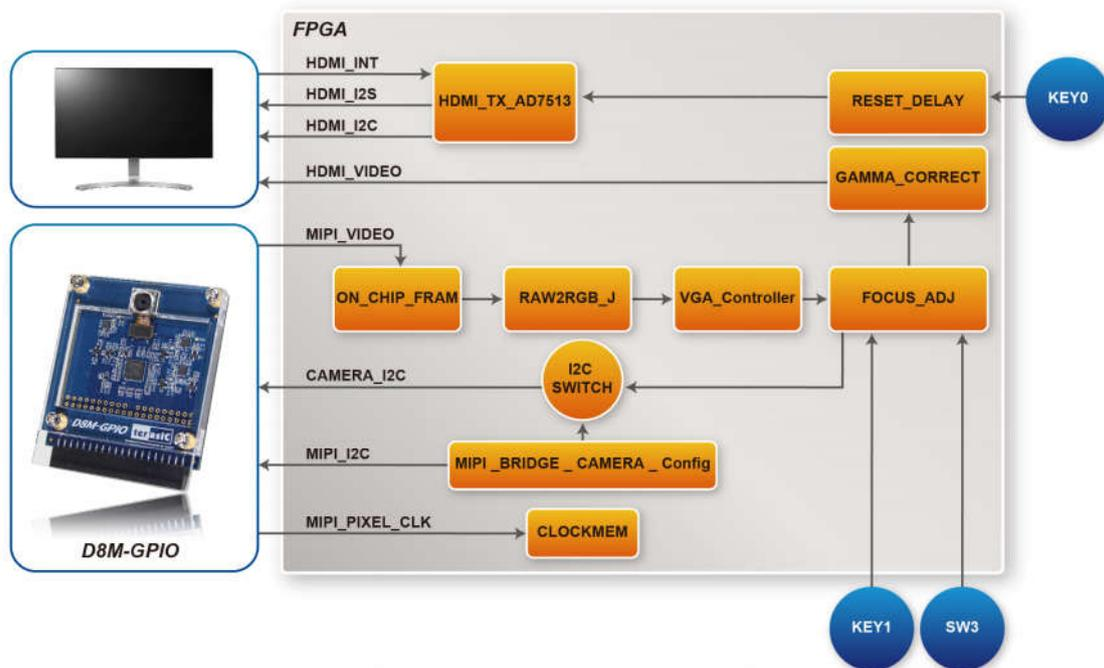

Figure 2 System Block Diagram
**Figure 2** shows the System block diagram of Camera demonstration. This design block is one dual-port-ram Control module can control on chip Memory and read/write image data. Camera raw data will be written in on-chip-ram first. After finishing writing a Frame, ON-CHIP\_FRAM module will read out the data from dual-port-ram to RAW2RGB\_J module to convert RAW data to RGB data. The RGB data will output along with the signal timing generated by VGA\_Controller to LCD . In the block, other module (for example, FOCUS\_ADJ, MIPI\_BRIDGE\_CAMERA\_Config ) function instructions and KEY/SW operation. All module functions are described below: